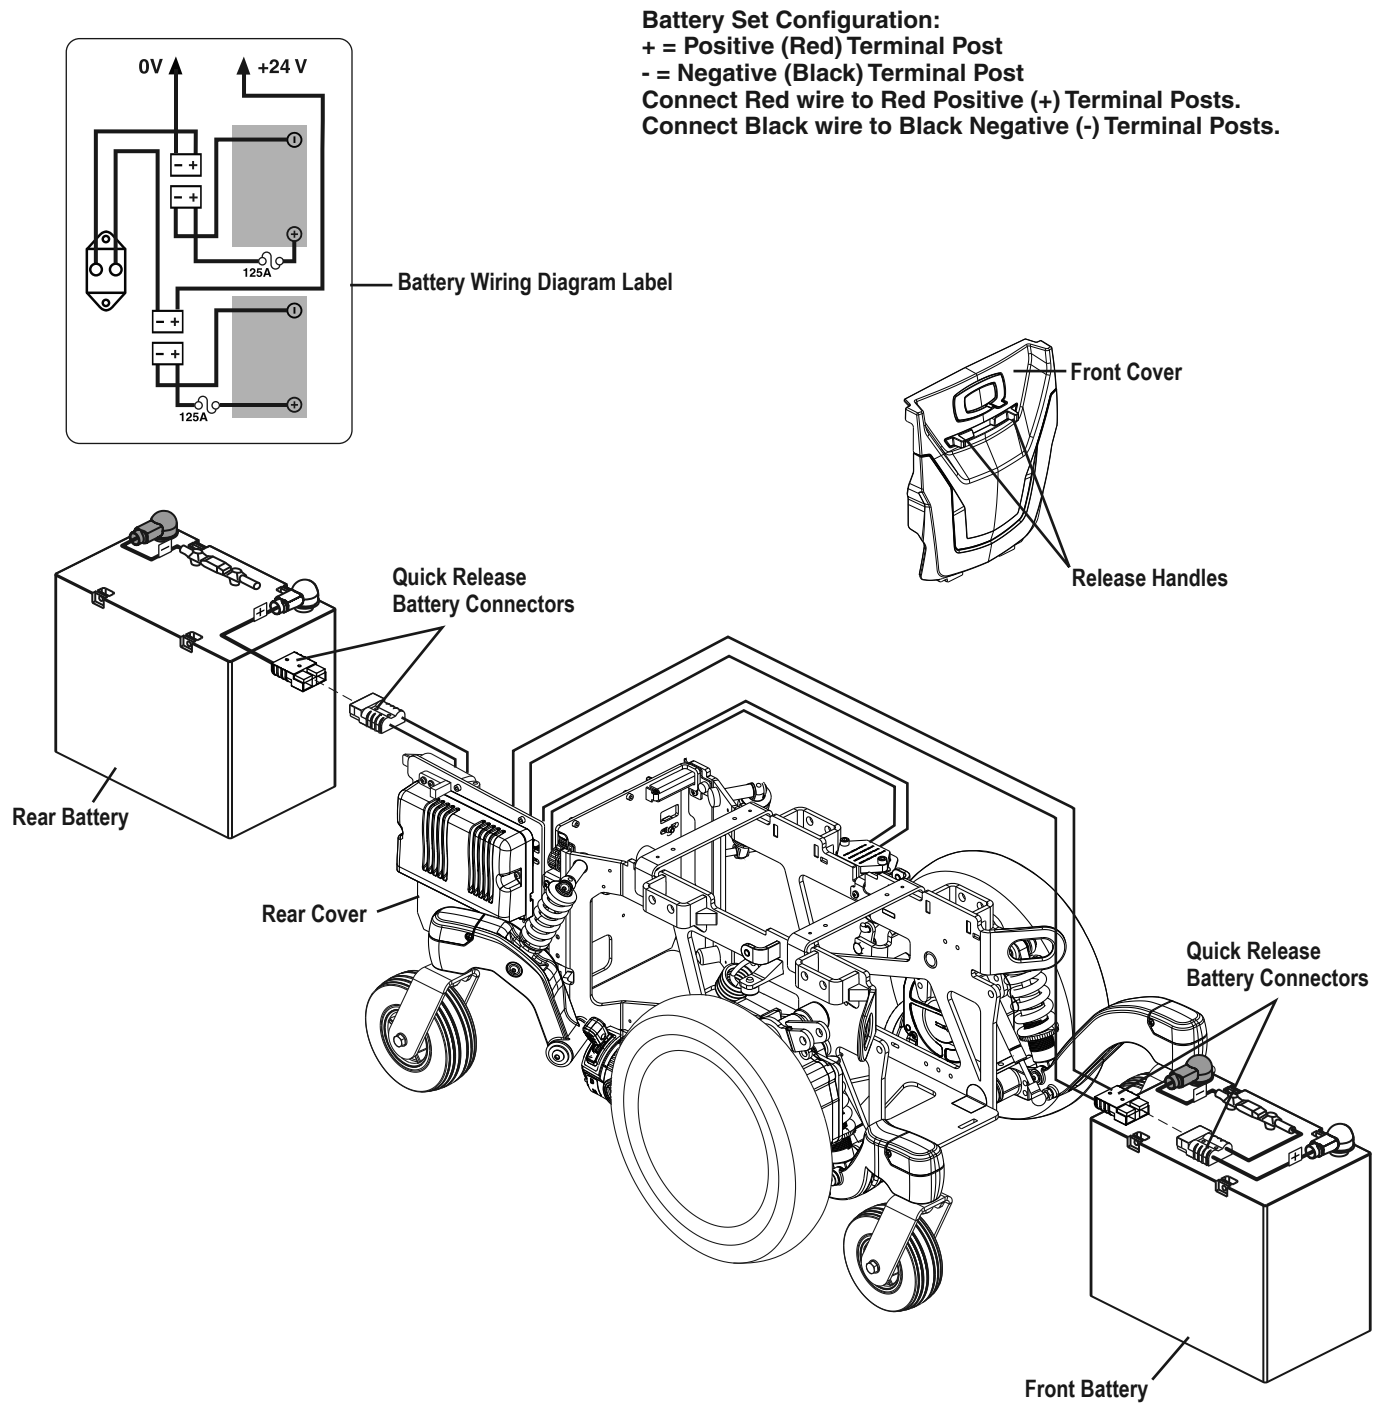

Figure 17. Battery Installation
3. Remove the front cover by squeezing the release handles (**see figure 17**) and lifting the front cover up and away from the power base.
4. Remove the rear shroud by rotating the two (2) yellow clips out toward the drive wheels. Lift the rear cover up and away from the power base.
6. Disconnect the quick release battery connectors. **See figure 17.**
9. Connect the battery harness to the new front battery according to the battery wiring diagram. **See figure 17.**
10. Connect the battery harness to the new rear battery according to the battery wiring diagram. **See figure 17.**